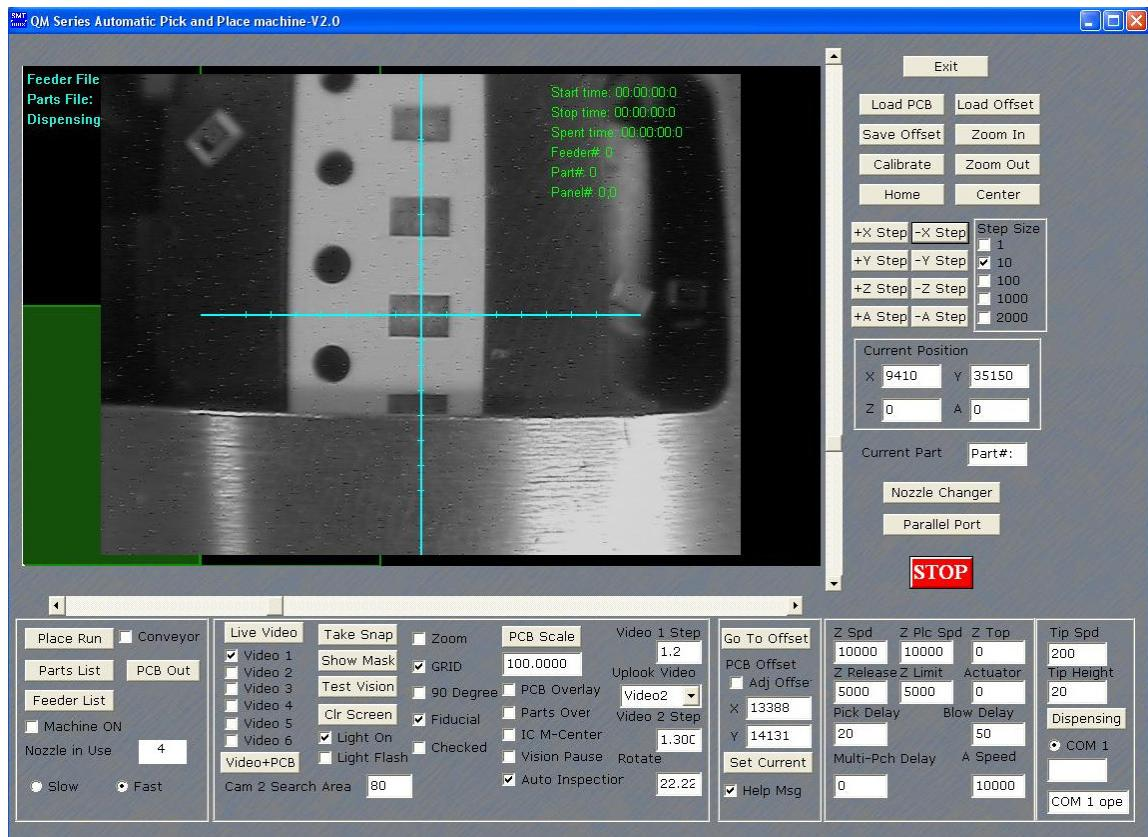

Figure 3.9: : Crosshairs of the DOWNLOOKING CAMERA centered on a component pocket of the component reel tape
8. Move the camera until its crosshairs are centered on the component pocket, as in Figure 3.9.